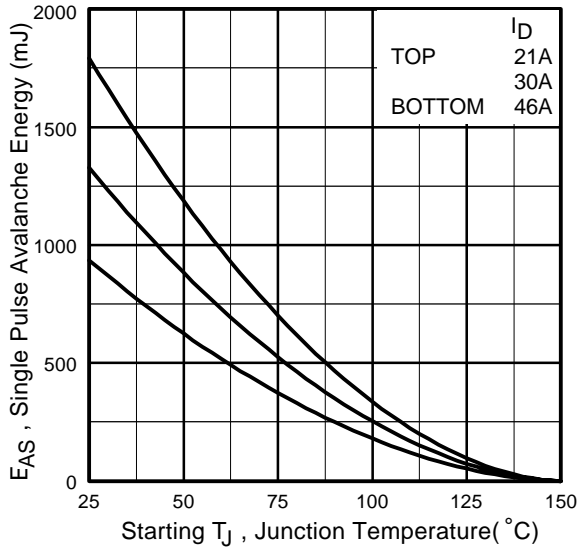

Fig 12a. Maximum Avalanche Energy Vs. Drain Current
- ② Starting $T_J = 25^\circ\text{C}$, $L = 0.86\text{mH}$, $R_G = 25\Omega$, $I_{AS} = 46A$ (See Figure 12a)
- ③ $I_{SD} \leq 46A$, $di/dt \leq 367A/\mu s$, $V_{DD} \leq V_{(BR)DSS}$, $T_J \leq 150^\circ\text{C}$.
- ④ Pulse width $\leq 400\mu s$; duty cycle $\leq 2\%$.
- ⑤ $C_{oss \text{ eff.}}$ is a fixed capacitance that gives the same charging time as C_{oss} while V_{DS} is rising from 0 to 80% V_{DS}